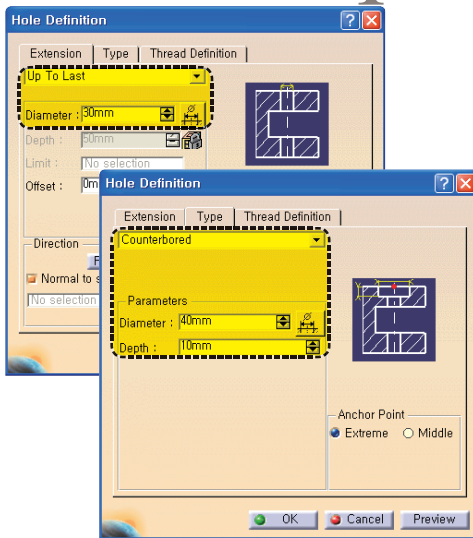

Fig 6-14 Options
4. Set the options in the **Extension** and **Type** tab in the **Hole Definition** dialog box as shown in Fig 6-14 and press **OK**.